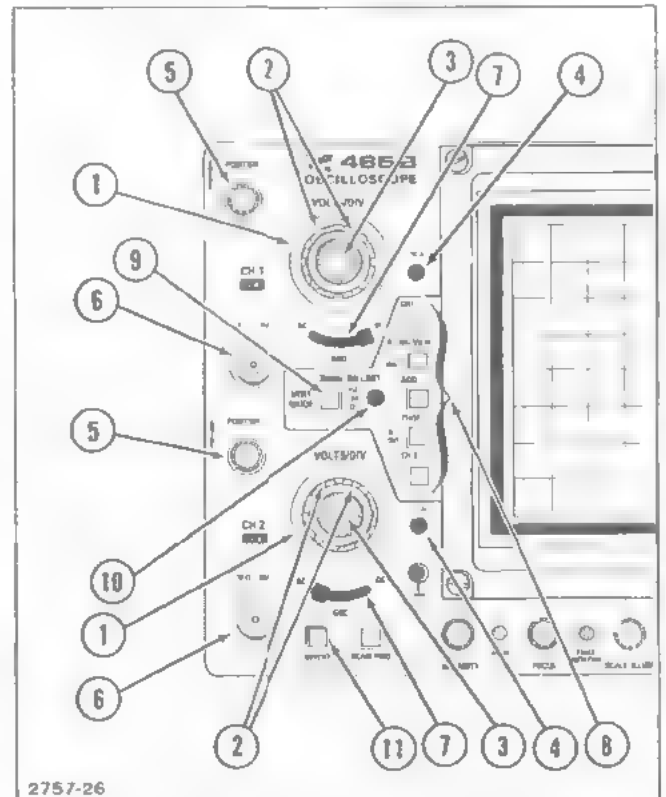

Figure 2-3. Vertical controls, connectors, and indicators.
The major controls, connectors, and indicators for operation of the 465B are located on the front panel of the instrument. A few auxiliary functions are provided on the rear panel. Figures 2-3 through 2-7 show the front and rear panels of the instrument with the controls, connectors, and indicators called out. The circled numbers correspond to the discussions about particular controls, connectors, and indicators. If your instrument is equipped with a DM44 Digital Multimeter, refer to either the 465B/DM44 Operators Manual or the DM44 Service Manual for descriptions of DM44 controls, connectors, and indicators.
Refer to Figure 2-3 for location of items 1 through 11
- ① **VOLTS/DIV Switches**—Select the vertical deflection factor for Channel 1 and Channel 2 in a 1-2-5 sequence. VAR control must be in the calibrated detent to obtain a calibrated deflection factor
- ② **VOLTS/DIV Readouts**—Consist of two light emitting diodes (LED) for each channel, located beneath the skirt of each VOLTS/DIV knob. One LED or the other will light to indicate the correct deflection factor. The 10X LED is illuminated only when a 10X probe with a scale-switching coding-ring contact is connected to the input of the oscilloscope, otherwise, the 1X LED is illuminated
- ③ **VAR**—Provides continuously variable uncalibrated deflection factors between the calibrated settings of the VOLTS/DIV switches
- ④ **UNCAL Indicator**—A LED that lights when the VAR VOLTS/DIV control is out of the calibrated detent, and the vertical deflection factor is uncalibrated